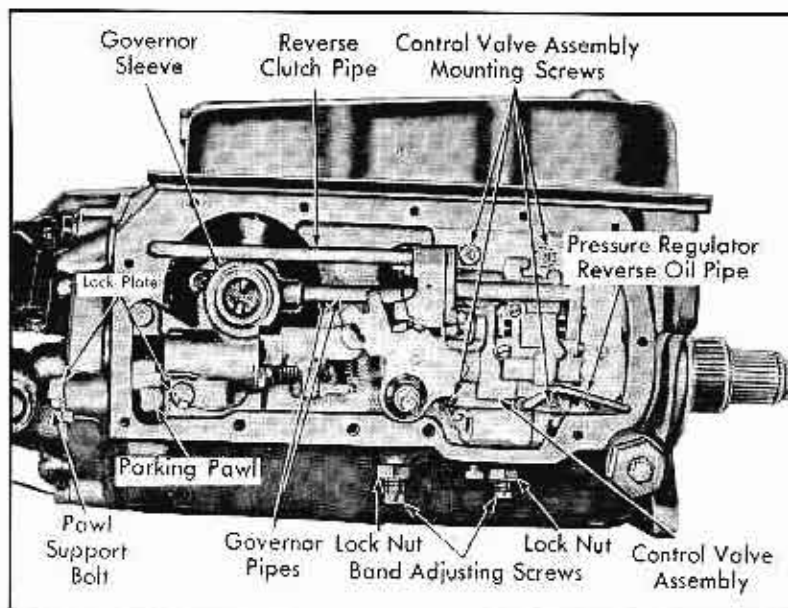

Fig. 14-14 Transmission with Side Cover Removed
14. Remove side cover screws (7/16") and cover with gasket. Fig. 14-14.
2. Remove four screws (7/16") holding valve body to transmission case. Fig. 14-14.